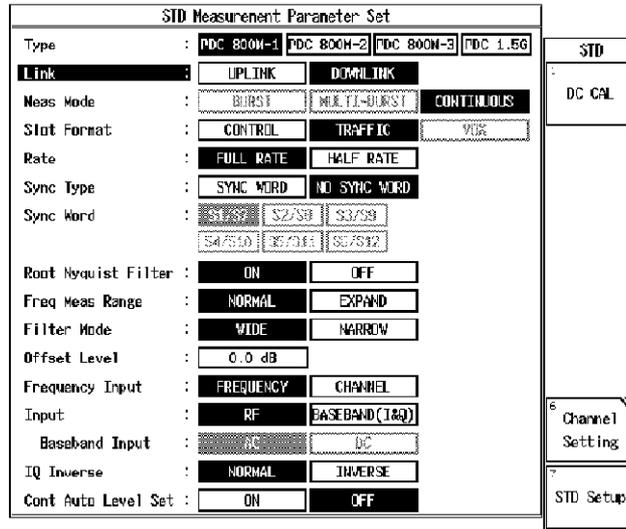

Figure 6-2 Setup of Parameter for Phase Accuracy Measurement (PDC)
- On the R3267 Series, set the STD parameter as shown Figure 6-2.